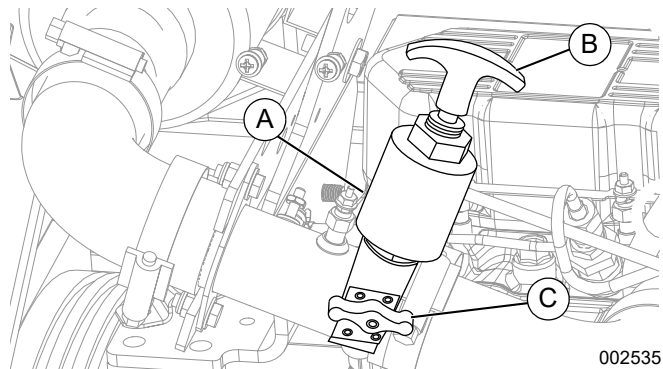

Figure 3-18. Positive Air Shutdown
See Figure 3-18. This unit may be equipped with a positive air shutdown (A) on the air intake. The PAS system automatically stops the engine if an overspeed is detected. Engine overspeed can occur if the atmosphere contains elevated levels of combustible propane or natural gas.